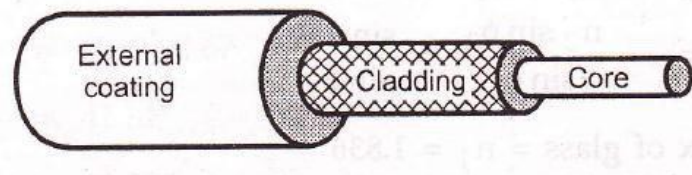

Fig.1.6.6. Single optical Fibre Structure
- A single fiber structure is shown in Fig. 1.6.6. It consists of a solid dielectric cylinder with radius 'a'. This cylinder is called as **core** of fiber. The core is surrounded by dielectric, called **cladding**. The index of refraction of core (glass fiber) is slightly greater than the index of refraction of cladding.